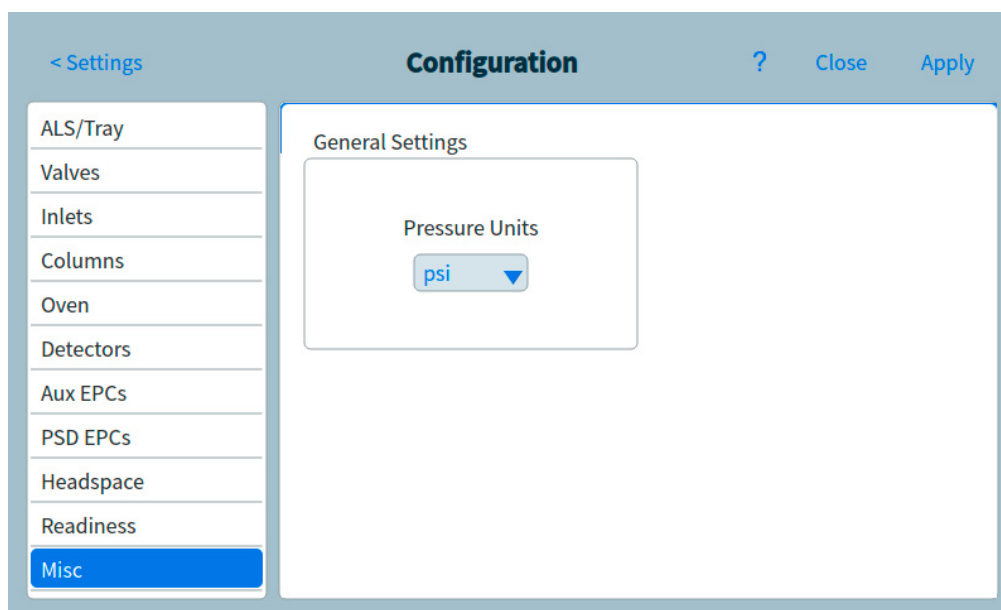

Figure 61. Miscellaneous settings page
- 1 Select **Settings > Configuration > Misc**. See **Figure 61**.